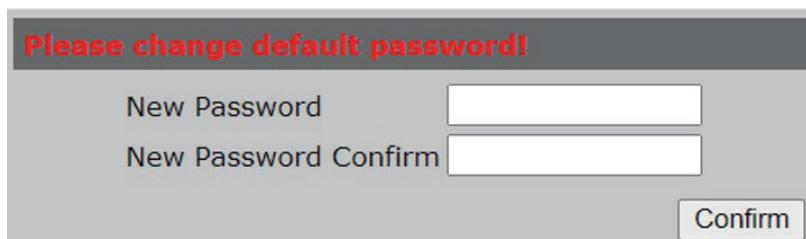

Figure 5-6: Create a New Password
3. After entering the password, the main screen appears as shown in Figure 5-6.